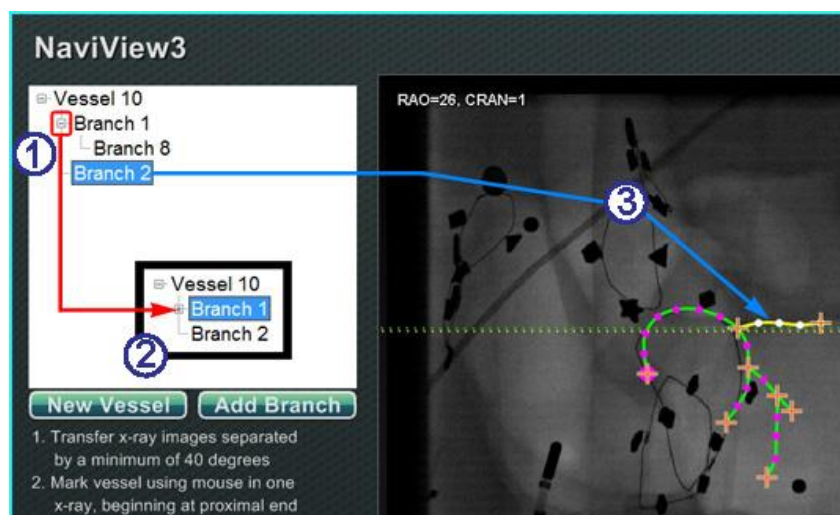

Figure 178. Directory tree tracks vessels and branches
Following the process outlined above, the user can create more branches off existing branches and trunks (**Figure 178**). The user can create as many vessels and branches as desired.
Add more branches guide (Figure 178)
- ① As the user adds vessels and branches, the directory tree grows. The indentation of each branch name indicates the branch level. So, a branch name indented twice is the branch of a branch.
- ② The user can expand and collapse the vessel and branch names as branches are added beneath them. For example, to collapse Vessel 1 in **Figure 178**, click the minus (-) sign. Only the name Vessel 1 will display. The user can also collapse Branch 1. The user can expand either group by clicking the plus (+) sign.
- ③ Click a vessel or branch name to select that vessel or branch. The name is highlighted with a bright blue rectangle, and the drawing is highlighted in the selected mode colors: yellow and white.